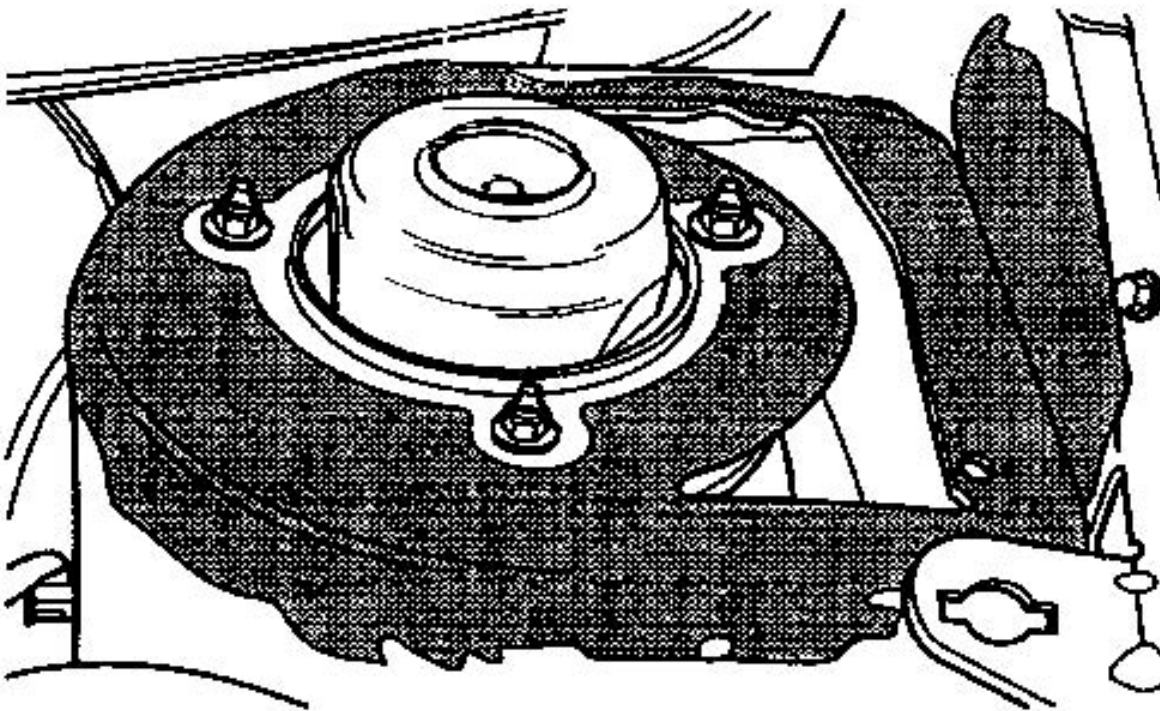

Figure 10. All paint and undercoat must be removed from the marked area. Bare metal.
- B22. Remove the E-coat from underside of repair cap (**Fig. 10**). [Yes, the surfaces should be bare metal. The Fusor 112B is a metal-metal adhesive. Resist the temptation to prime it.]